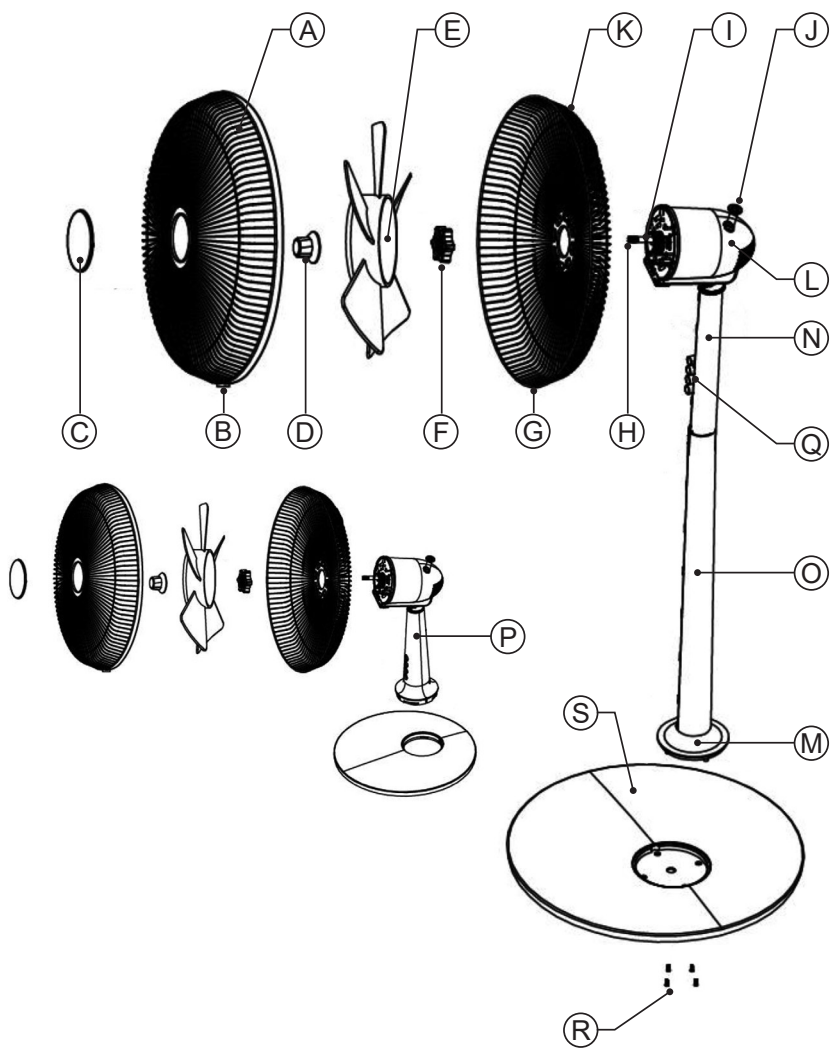

Fig.1
- Insert the lower stand tube (O) into the base hole (S) and keep the bulge (M) of the stand tube alignment with space of the base hole.
- Then use four screws (R) tighten (Fig.1).